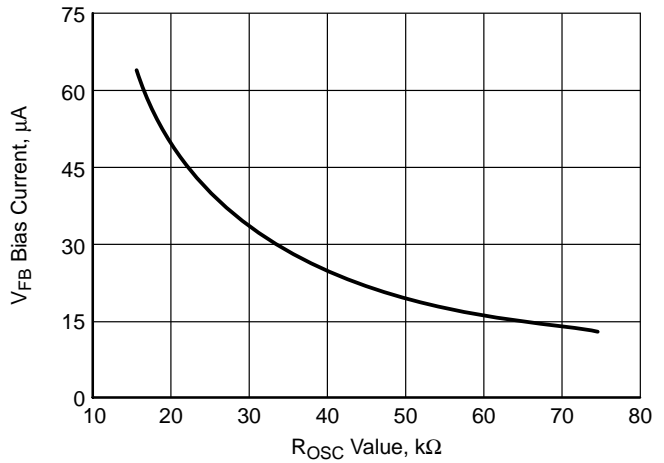

Figure 5. VFB Bias Current vs. ROSC Value
2. The  $V_{\text{FB}}$  Bias Current changes with the value of  $R_{\text{OSC}}$  per Figure 5.